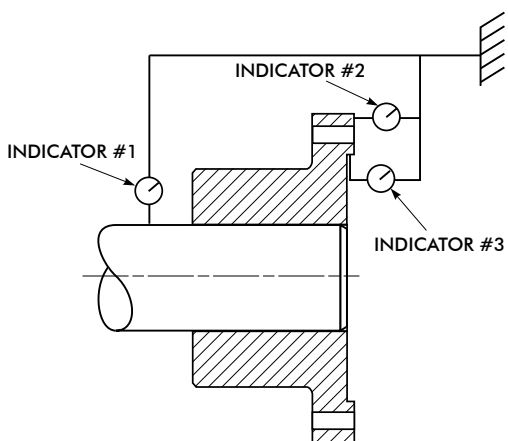

FIGURE 4
2. Check both shafts for runout to ensure shafts are not bent. Refer to Figure 4.
- b. Mount hub flush with face of shaft. Allow hub to cool before proceeding. Refer to Figure 4.
- c. Check that the hub is correctly positioned on the shaft, then using dial indicators check hub runout as illustrated in Figure 4. Checking the hub runout ensures correctness of hub mounting and will reduce drive movement. Make sure runout values do not exceed limits listed in Table 1. If runout is excessive, remove hub following the removal instructions, and carefully remount the hub to the shaft.